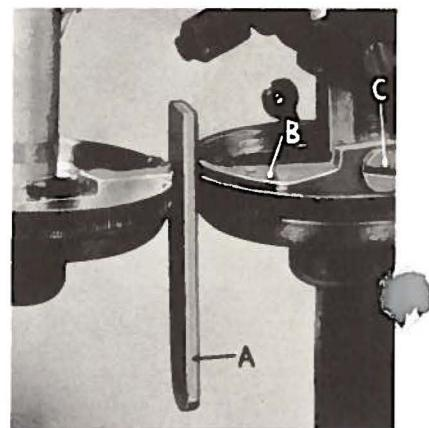
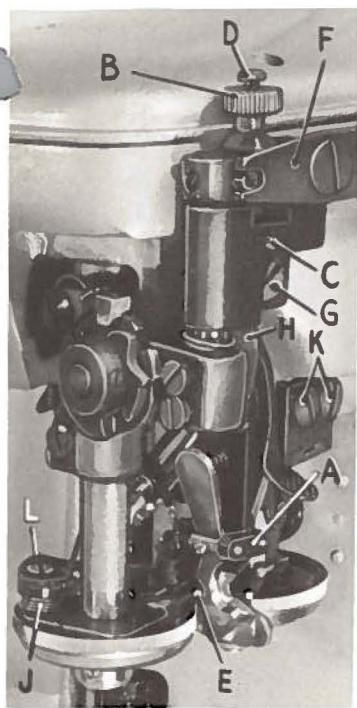

Fig. 5
Fig. 13
Gauge No. 21227 M (A, Fig. 5) is now used to determine the distance between the front and rear feed cups. Move front feed cup to its extreme outward position by exerting pressure on separating rod and then insert gauge, which should barely pass between them.
The stitch tongue support (B, Fig. 5) is held by screw (C), which allows a horizontal adjustment, and screws K, Fig. 13 holding the stitch tongue support bracket, which allows a vertical adjustment.
The uncurling device (A, Fig. 13) should be centered between the feed cups. Adjustments can be made vertically and horizontally.